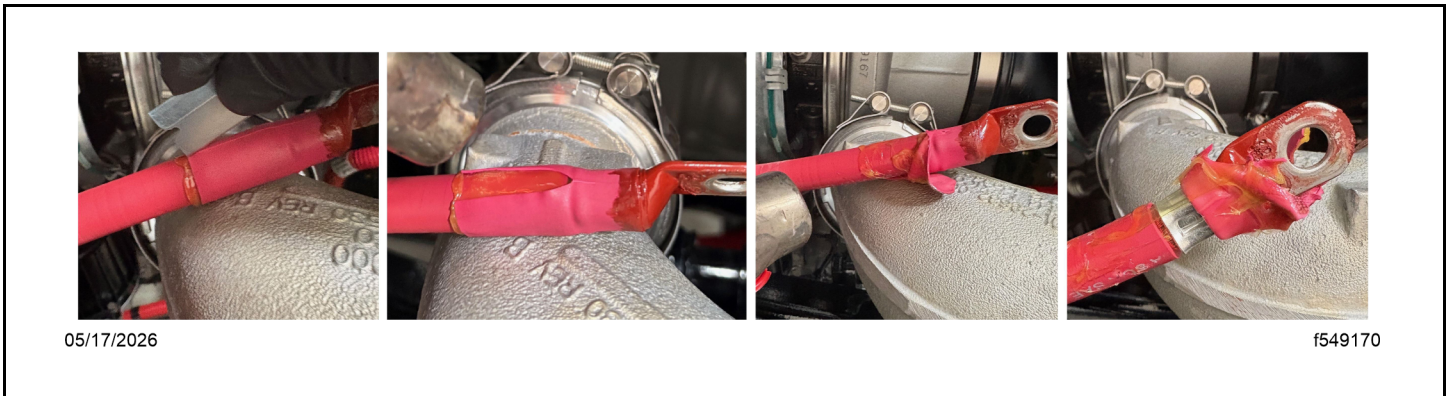

Fig 157, Heat Shrink Removal
- b. Remove the original heat shrink. To do so, heat it, score it, and continue to heat it until the score splits and the adhesive softens. See Fig. Fig. 157.